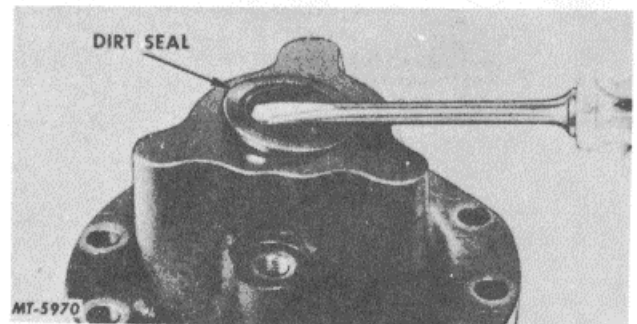

Fig. 18
15. Pry dirt seal from the bearing cap, Fig. 18.